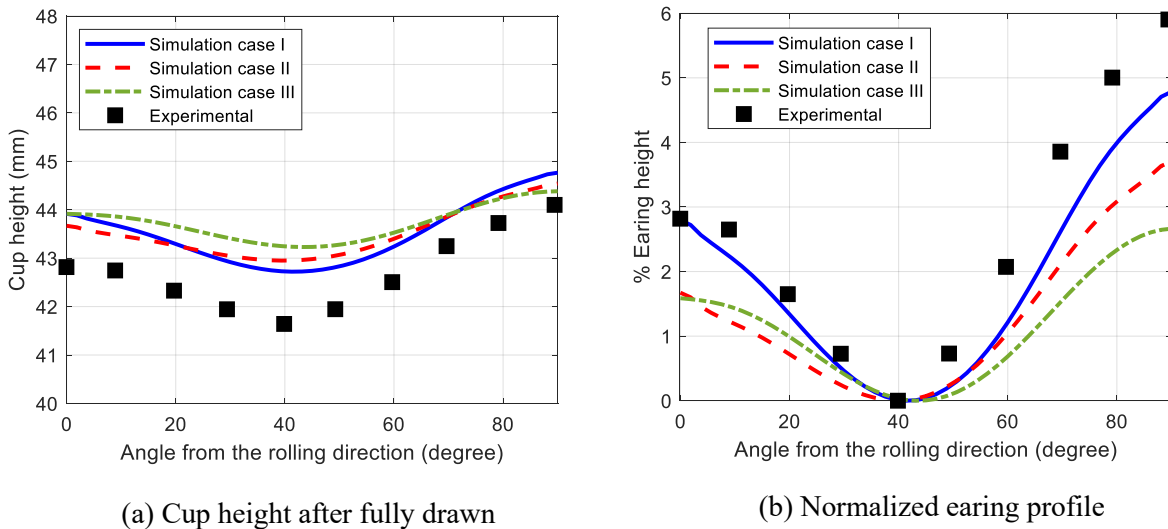

Figure 4 Simulation-predicted earing profile as compared to experimental results
To show how the model prediction correlates to experiments, Figure 4(a) compares three cases of simulated cup height as a function of the angle from the rolling direction along with the experimental data. Case I is obtained by using LS-DYNA[®] with the anisotropic parameters identified by LS-OPT[®] as listed in Table 2 (1st row). Case II is also calculated by LS-DYNA[®] but with the anisotropic parameters taken from the literature, which are also listed in Table 2 (2nd row). As a reference, another simulated profile, which is based on the same model with the same set anisotropic parameters as case II but uses a different numerical implementation [3], is included as case III. To better observe the variation of cup height, Figure 4(b) compares the % earing height of all three cases with the experimental data, where % earing height is calculated by equation (12):
As illustrated by Figures 4(a) and (b), all three simulated cases are able to capture the general features of the overall earing profile. The differences between case II and case III are considered to be due to differences in the details of numerical implementation of the same theoretical model, as well as different element formulations, contact assumptions, etc.. On the other hand, the differences between case I and II are solely caused by different sets of anisotropic parameters being used in the simulations. Case I, which uses the LS-OPT[®] identified parameters matches the experimental data better in terms of both the cup height values and the overall earing profile. The reason is considered to be the fact that the numerical algorithm used in the material parameter identification process and the cup-drawing analysis are consistent with each other. In case I, the LS-OPT[®] identification procedure serves as a “training” process that makes the material model 263 “learn” the best set of anisotropic parameters that matches the real material behavior. The numerical consistency between the identification process and simulation process leads to the overall improvement of earing prediction.